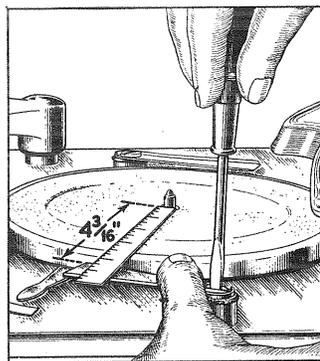
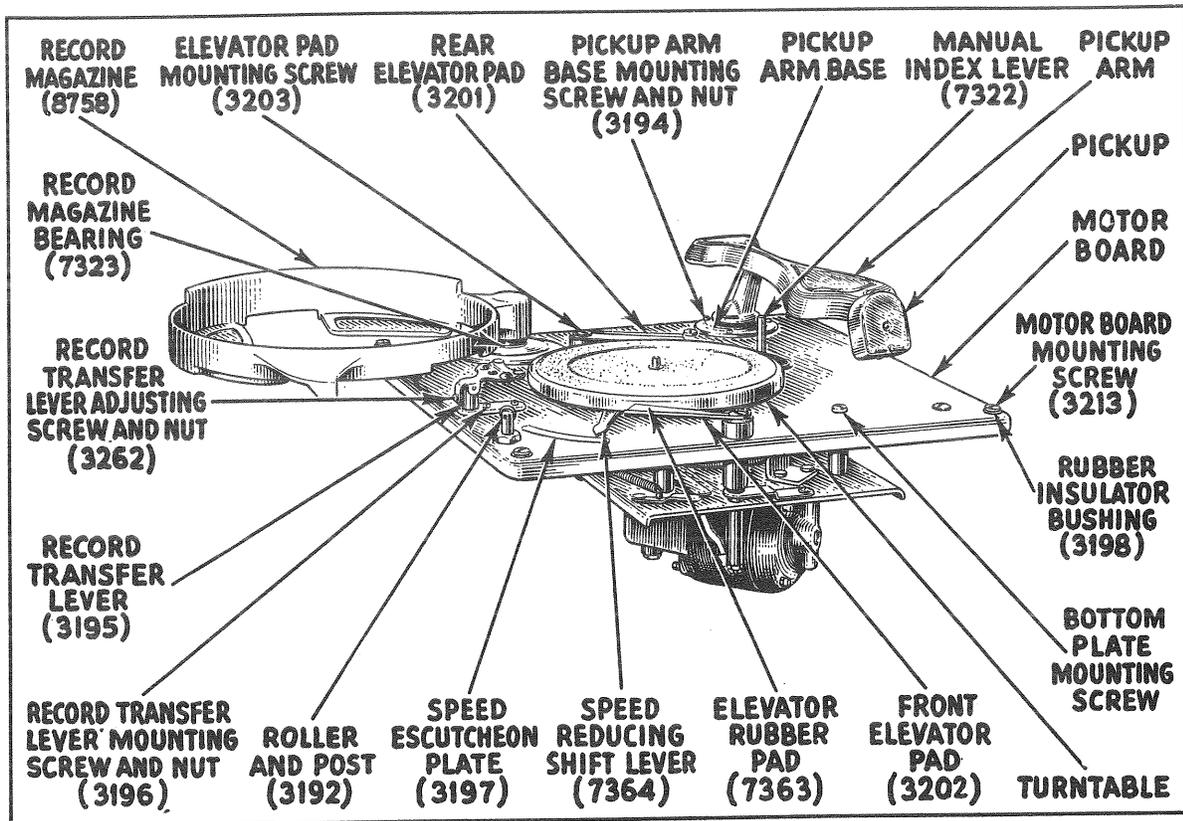

Figure 3—Adjusting elevator pad
Figure 16—Top view of mechanism showing parts
7. After the instrument has completed one record changing operation, a ten inch record should extend about three-quarters way over each elevator pad. If this condition does not exist, an adjustment can be made by means of the screws that hold the pads in position. A pair of pliers heavily padded with cloth or other soft material should be used to hold the elevator shafts while loosening and tightening the screws. The distance from the closest part of either pad to the edge of the spindle is approximately $4\frac{3}{16}$ ". Figure 3 shows the method of making this adjustment.
- (a) Improper horizontal adjustment of elevator pads. The elevator pads Figure 16, should be so adjusted that the inside of the pad flange is $4\frac{3}{16}$ " from the nearest side of the turntable spindle. See Figure 3. Loosen the screw on top of the elevator shaft, move the pad to its correct position, holding both the pad and the elevator shaft in position and tighten the screw. Care should be observed that the ridge in the elevator shaft is not turned against the slot in the elevator shaft actuating lever so as to cut the latter. Grip the shaft with padded pliers while this adjustment is being made in order to prevent the shaft from turning. If for any reason the elevator pads have been removed, always place the one with the rubber surface toward the front of the mechanism when replacements are being made.